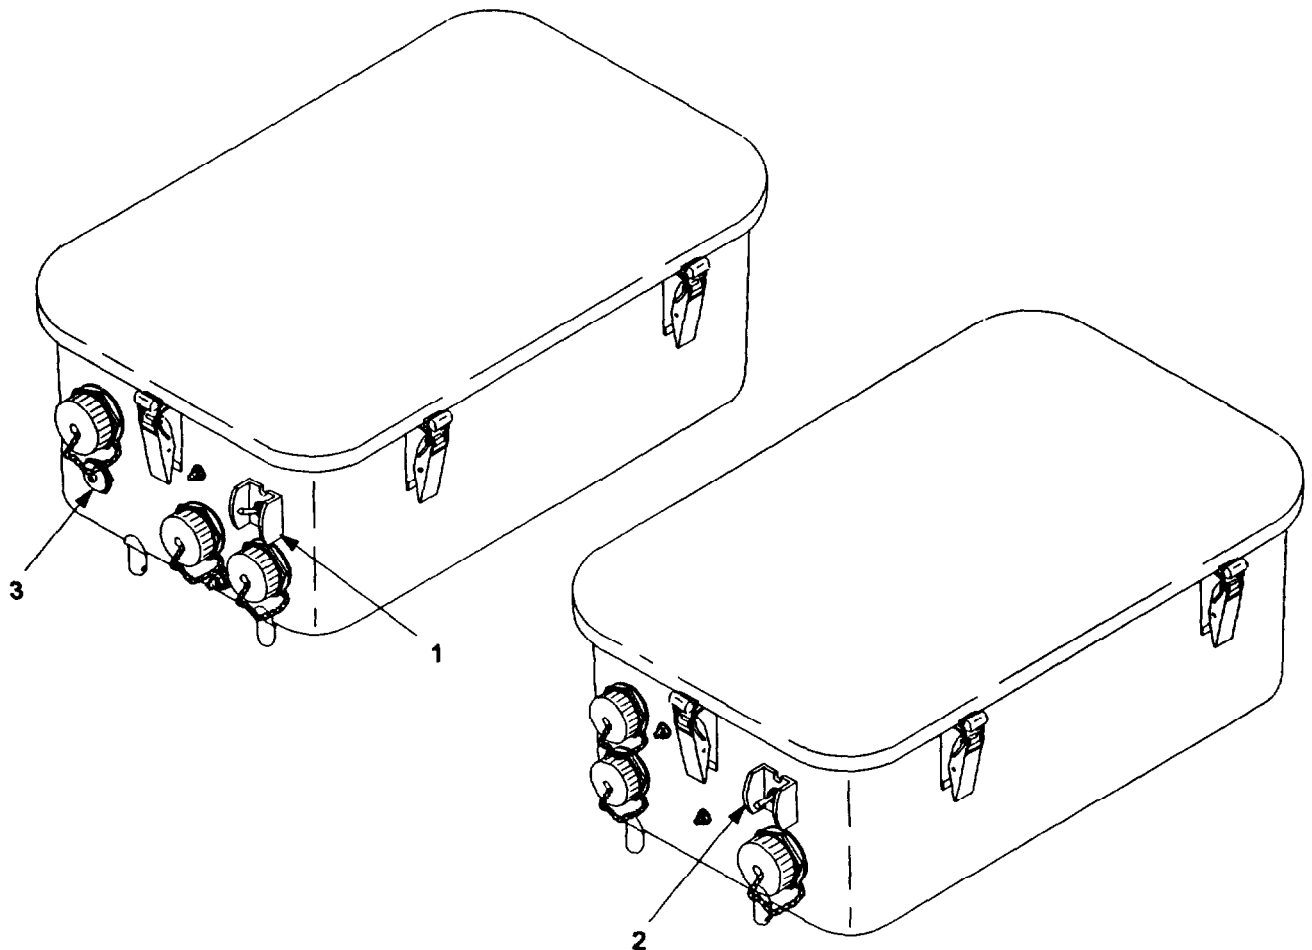

Figure 2-1. Controls and Indicators on IMTC Electronic Components Assembly.
a. **Controls and Indicators on the IMTC.** Controls and indicators on the IMTC are located on the electronic components assembly. The controls and indicators are described in table 2-1 and illustrated in figure 2-1. Match the keys in table 2-1 with the callouts on figure 2-1 to determine the location of the controls or indicators.